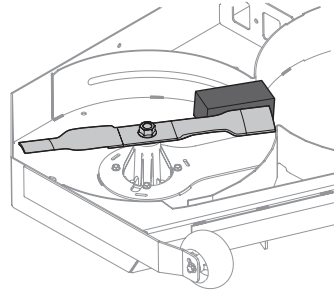

Figure 2
3. Place a block of wood between deck housing baffle and cutting blade to act as a stabilizer, then use a wrench to remove hex flange nut securing each blade to its spindle assembly. See Figure 2.